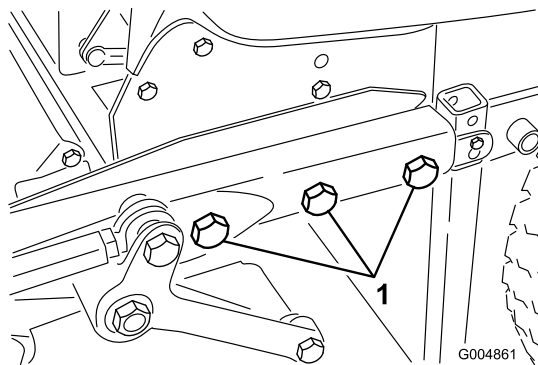

Figure 88
- 31. Roll the summer deck and frame into position and install the five 3/4 inch bolts, washers and nuts that connect the deck frame to the rear frame (Figure 88). Remove the lift cylinder pins and rear drive tires (if required) to gain access to the bolts on the right hand side. Torque the bolts to 265 foot pounds.